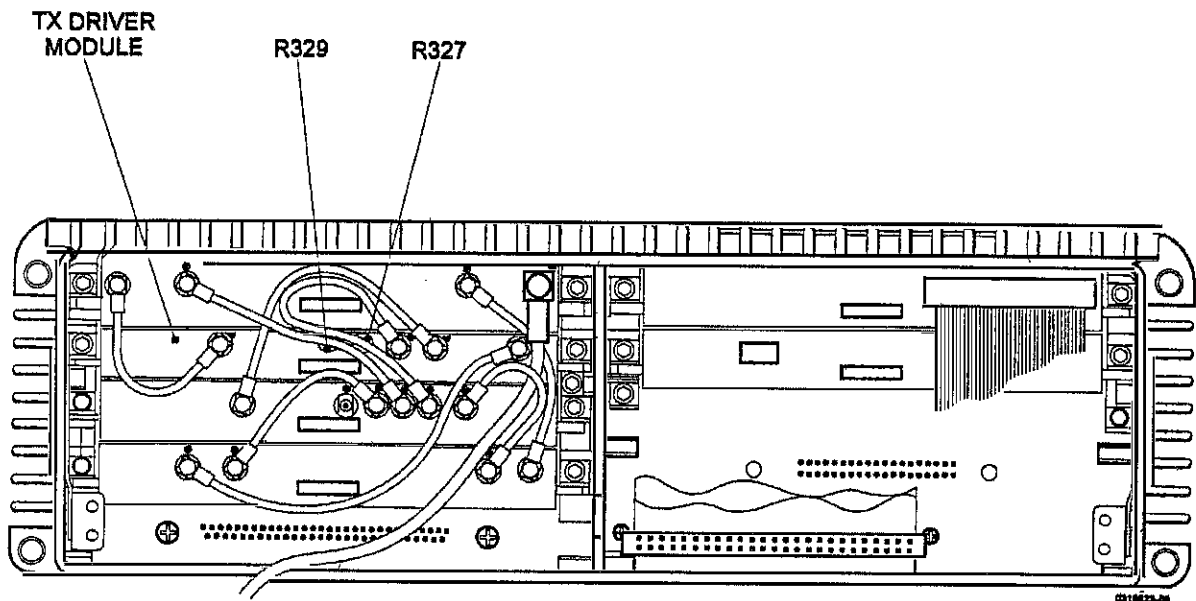

Fig 4 RF power output and AM modulation adjustments
75.10 Press and hold the 8920C unit Pressel switch. Observe the 2955B Tx power indication and adjust the R/T unit Tx driver module adjuster R327 (Fig 4) until the 2955B Tx power indication shows 7.2 ± 0.5 Watts (indicating 8.0 ± 0.5 Watts true power). Release the Pressel switch.
- 75.14 Press and hold the 8920C unit Pressel switch. Observe the 2955B modulation level indication and adjust the R/T unit Tx driver module adjuster R329 (Fig 4) until the 2955B modulation level indication shows 78 to 82 percent modulation. Release the Pressel switch.